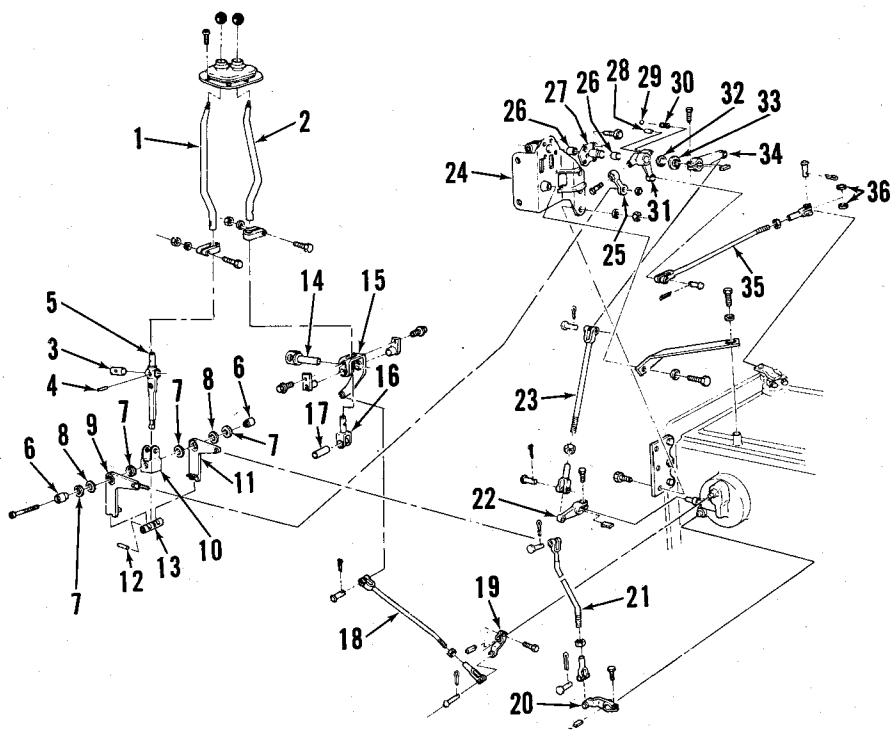

Fig. 152—Exploded view of shift linkage on Models 8700, 9700, TW-10, TW-20 and TW-30.
183. 8700, 9700, TW-10, TW-20 and TW-30 MODELS. Refer to Fig. 152 for exploded view of transmission shift levers and linkage used on Models 8700, 9700, TW-10, TW-20 and TW-30.
follows: Detach shift rod (21—Fig. 152) from high/low shift arm (20) and place shift arm in neutral. Center high/low shift lever (11) over interlock pin (13) then adjust length of shift rod (21) by turning clevis so clevis pin will fit easily through clevis and shift arm (20). Adjust length of interlock control rod (23) by turning clevis so center to center distance between rod ends is 11-3/8 inches. Adjust length of gearshift control rod (18) by turning clevis so center to center distance between rod ends is 13-7/8 inches. Check clearance between gearshift lever (2) and guard with lever in 4th gear. Minimum clearance is 1/2 inch; loosen gearshift lever and rotate lever to obtain clearance. Clearance between high/low shift lever (1) and guard should be at least 1/2 inch while in high range and 1/4 inch when in park position. Loosen lever clamp and rotate lever to obtain desired clearance.